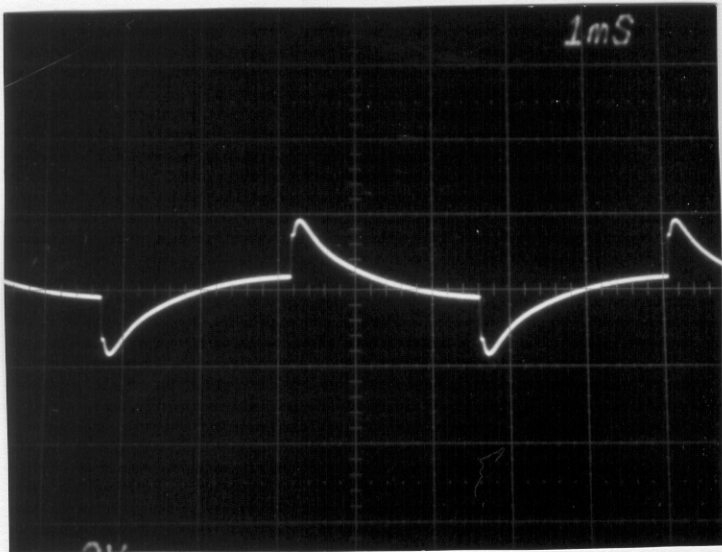

Fig. 1. Tones @ center, filters off
2. Set all the VOICING FILTER controls to zero (0), BOOST2 and LEVEL to 10, all other knobs to 12 o'clock (halfway). Set all switches OUT.
5. Look at the output and compare to figure 1.